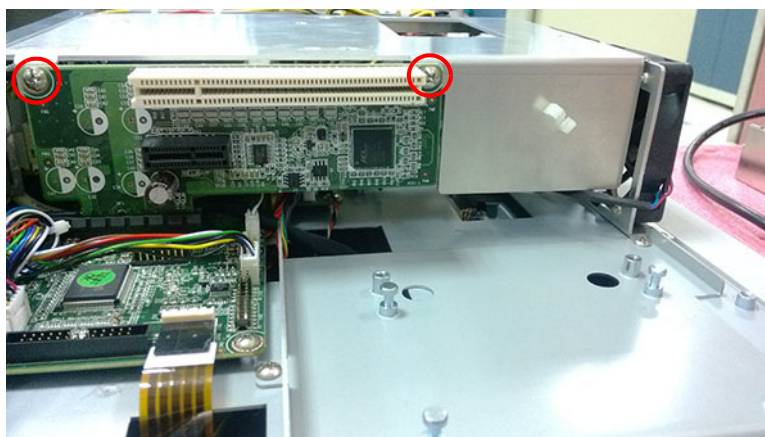

Figure 2.10
2. Remove the two screws of the riser card (see Fig 2.10), and pull it out.